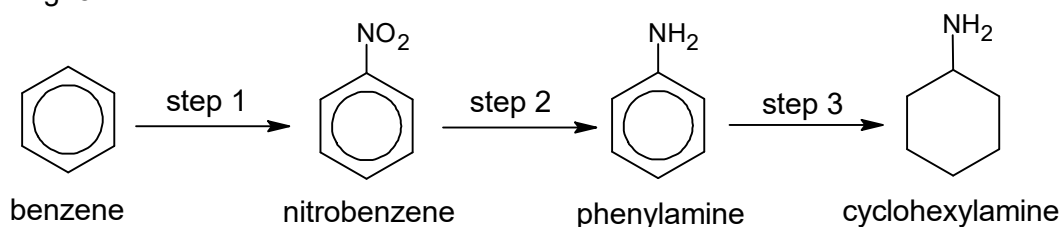

Fig. 5.2
- (c) Cyclohexylamine can be produced from benzene in a three-step synthesis as shown in Fig. 5.2.